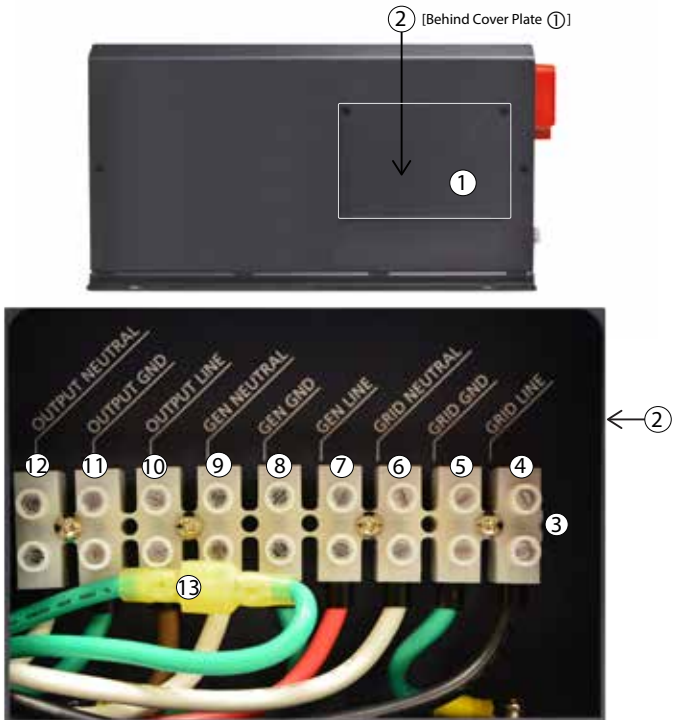

Fig 3.9 AC Input and Output
AC side layout and connection arrangement are shown in Fig 3.9.
- **Disabling Neutral to Ground Bond:** In some applications, the Output Neutral may be required to remain isolated from chassis/ground at all times. For this, automatic Output Neutral to chassis Ground bond can be disabled by disconnecting the Male/Female Disconnect (13, Fig 3.9) located in the AC Wiring Compartment.
The AC input and output supply connections are located in a pocket protected by a cover with a removable front plate (1,2 Fig 3.9). Three 27.8mm / 1¹/₃₂" diameter holes (10A to 10C, Fig 2.1) have been provided for cable / conduit entry. Remove the caps covering the holes and install appropriate 3/4" Trade Size Fitting for routing the AC input and output wires/conduits.
Screw down type of terminal block (3, Fig 3.9) is used for connecting the wires. The hole size for wire entry is 6 mm and set screw size is M4. It can accommodate conductors with solid or multi-stranded wire size range of AWG #6 to AWG #20.